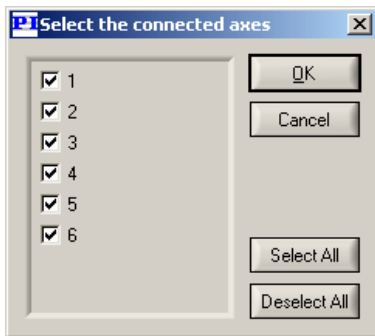

Fig. 2. Connected axis selection window
- E-710: You will be asked which of the axes supported by the controller are to be made available for use (see Fig. 2). If you cancel the selection, the device will be automatically disconnected.
- The *Select the connected axis* window (Fig. 2) where the axes need to be configured if they are not automatically get from the controller. If you want to modify the configured axes, open the window with the *Config* → *Connected Axes Selection* menu sequence. See also Section 5.2 on p. 19.